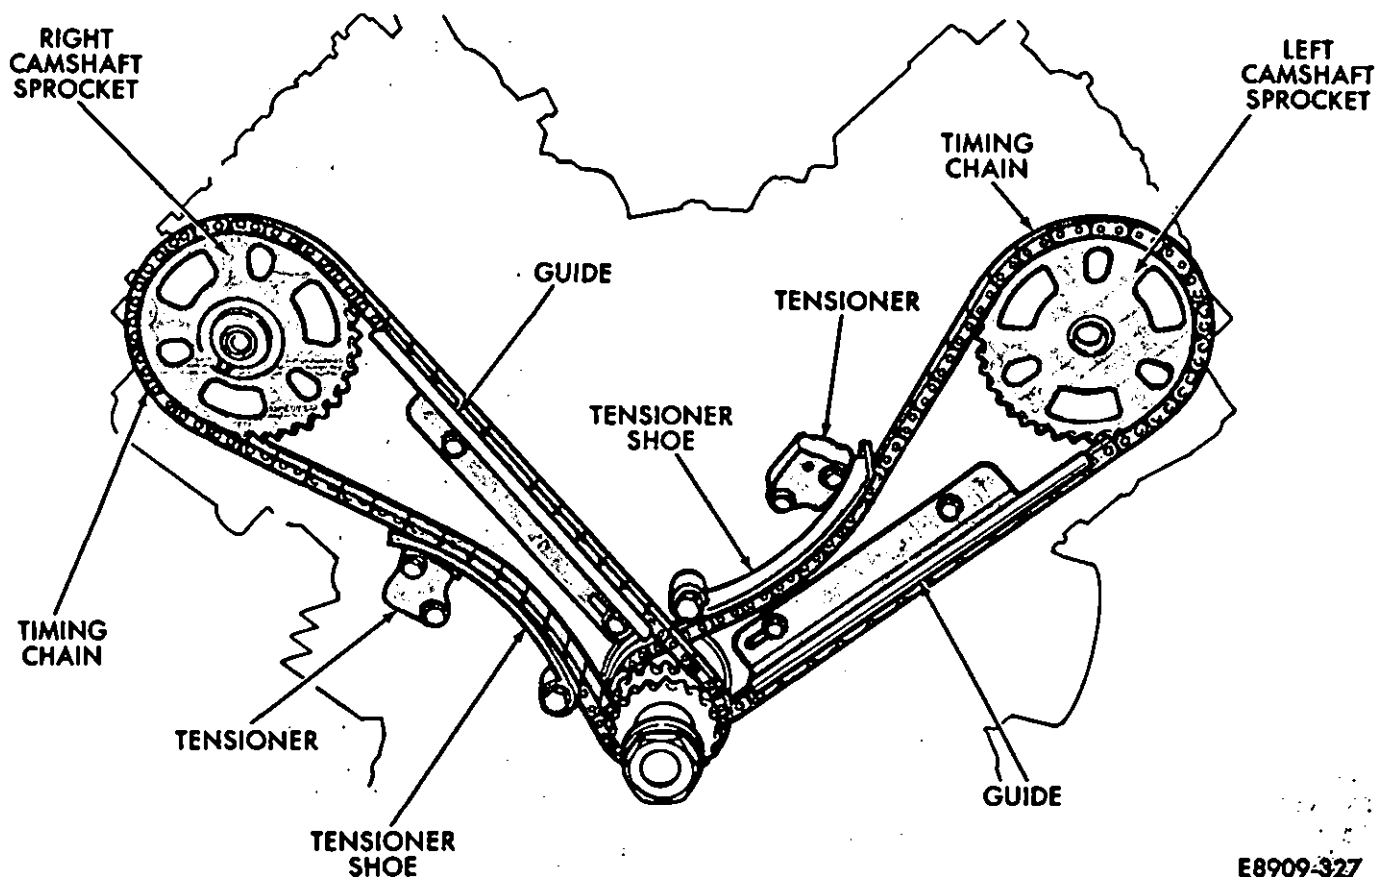

Fig. 8—Timing Chains/Sprockets/Tensioners
When removing the timing chains, tensioners, guides, sprockets and tensioner shoes, keep the left and right hand sides separated do not mix them. The components must be put back on the side they were removed from (Fig. 8).
(1) Remove the bolt attaching the right hand side camshaft sprocket to the camshaft (Fig. 8).
(2) Lock the timing chain tensioner.
(3) Remove right hand side timing chain tensioner and let tensioner shoe hang down (Fig. 8). **CAUTION:** The timing chain tensioner lock must be set in the locked position before removing the tensioner. To lock the tensioner, rotate the slotted lock finger counterclockwise with a thin screwdriver.
(4) Remove right hand side timing chain (Fig. 8).
(5) Remove right hand side camshaft sprocket (Fig. 8).
(6) Remove right hand side timing chain guide (Fig. 8).
(7) Remove right hand side tensioner shoe (Fig. 8).
(8) Keep the right hand side components together in a group separate from the left hand side components.
(9) Remove left hand side timing chain tensioner (Fig. 8).
(10) Remove left hand side timing chain (Fig. 8).
(11) Remove left hand side camshaft sprocket (Fig. 8).
(12) Remove left hand side timing chain guide (Fig. 8).
(13) Remove left hand side tensioner shoe (Fig. 8).